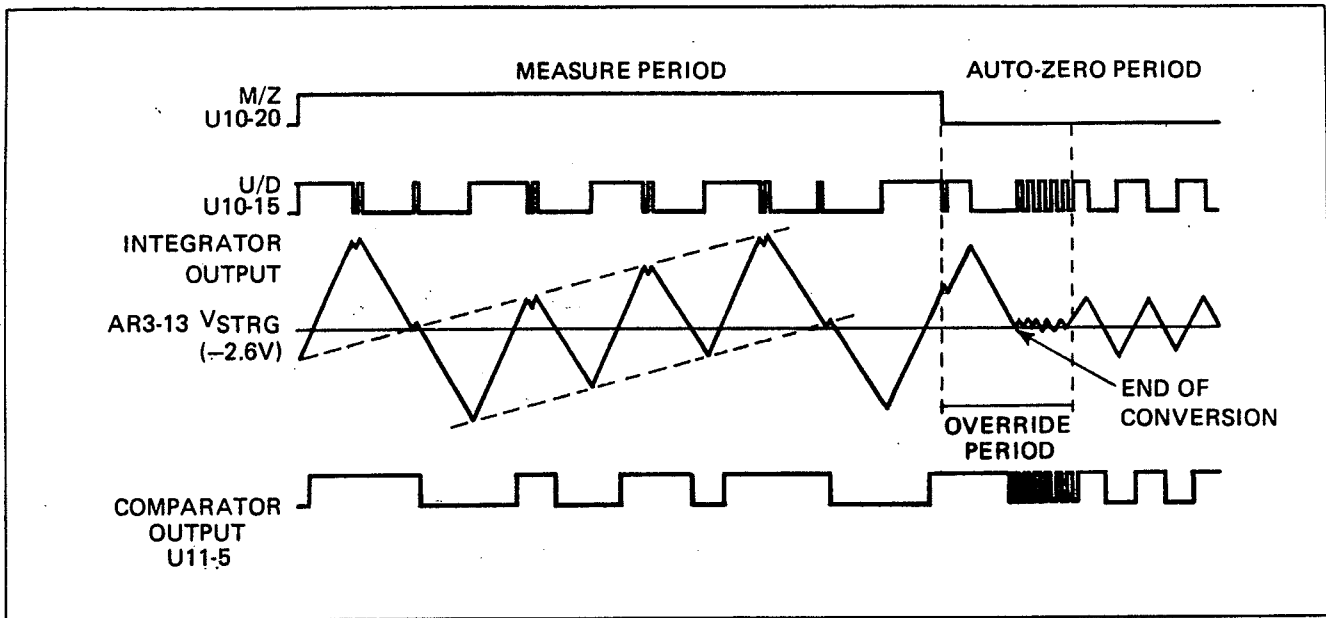
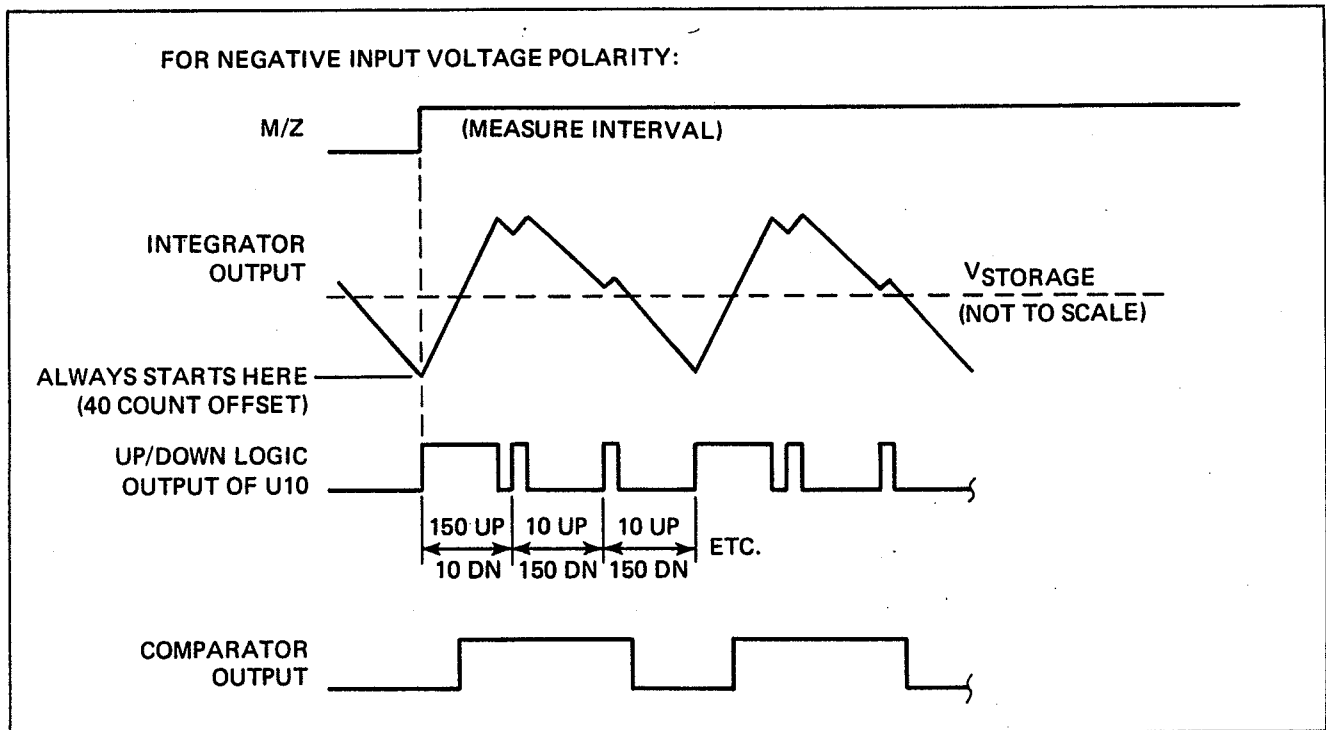

Figure 4.10 - Typical A/D Converter Waveforms
Figure 4.11 - Waveforms at Beginning of Measure Interval for Negative Input
waveform, shown in Figure 4.10, is applied to the analog processor. When the logic level on the START TRIGGER line is held low, the M/Z waveform is generated continuously and the DMM is taking measurements continuously at a rate of 4 readings/sec (60 Hz instrument, 5-1/2 Digit mode) or 40 readings/sec (60 Hz instrument, 4-1/2 Digit mode). When operating the DMM in the Hold/Command (triggered reading) mode, a logic high on the START TRIGGER line holds the system in the Auto-zero mode. A negative going pulse on this line initiates one measurement cycle.
4.4.4.1 At the start of the Measure Interval; (a) the M/Z control goes high, switching the Isolator output to the Input Buffer AR5 through M/Z switch U26, (b) Auto-Zero switch Q9 is switched OFF, disconnecting the Integrator output from the Auto-Zero Filter capacitors, (c) U/D control is high, switching the Reference Buffer input to Analog Common, and (d) the Integrator output is slightly more negative than V_{strg} (see Figure 4.11). At this time, the only inputs to the Integrator are V_{strg} and the input signal from the Isolator (buffered by AR5). With only these two inputs, the Integrator output will always move in a positive going direction, independent of the polarity of the signal from the Isolator. As the Integrator output moves away from V_{strg} , the comparator senses the output of the Integrator and compares it to V_{strg} on the other Comparator input (pin 12 of U10). The comparator output transmits the sense of deviation of the Integrator output from V_{strg} to the Control Logic circuits in U10. The Control Logic circuit generates the UP/DN control signal as described in paragraph 4.4.2.2 and shown in Figure 4.10 and 4.11. The effect of the two duty cycles (10 up, 150 down or 150 up, 10 down) is to source or sink a net 140 clock pulses of charge to integrator capacitor C16, thus driving the Integrator output toward V_{strg} and accumulate a net 140 counts in the up/down counters. The charge is supplied by the current through R9 from the buffered Reference voltage. Charge is added to C16 when the Reference Voltage is applied to R20 and subtracted when the Reference voltage at the output of the Reference Buffer is zero. The net amount of charge required to keep the Integrator output at V_{strg} during the Measure Interval is measured by the Up/Down Counter in the Digital I.C. The BCD count at the end of conversion equals the number of charge parcels necessary to cancel the input voltage and the resulting digital count is proportional to the analog voltage.